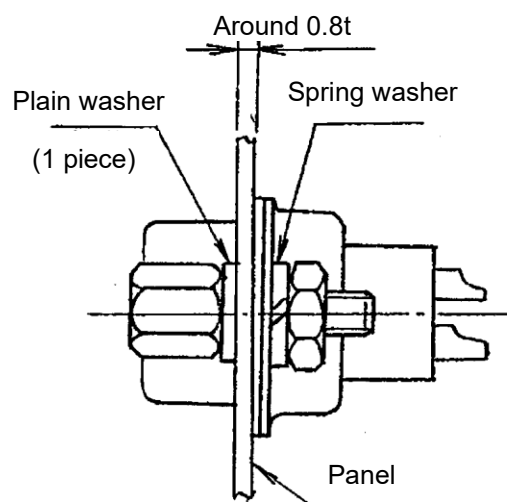

Figure 5. Back Mounting
- (3) To install on the back surface of the panel, adjust the quantity of the plain washers depending on the panel thickness as shown in figure 5. For example, as the thickness of the plain washer is 0.8mm, if the thickness is approximately 0.8mm, use one plain washer, if the thickness is approximately 1.6mm, don't use any plain washer.